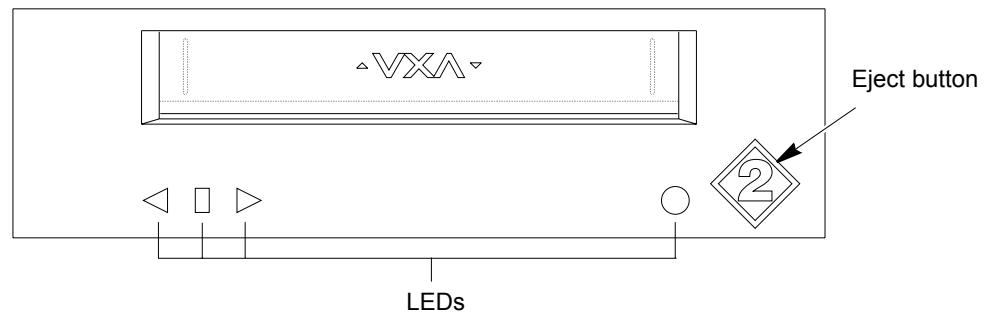

Figure 4-3 Location of tape drive's eject button and LEDs
2. Press the eject button on the drive's faceplate (see Figure 4-3).
The VXA-2 tape drive's faceplate has four LEDs, shown in Figure 4-3, that indicate the drive's operational status.